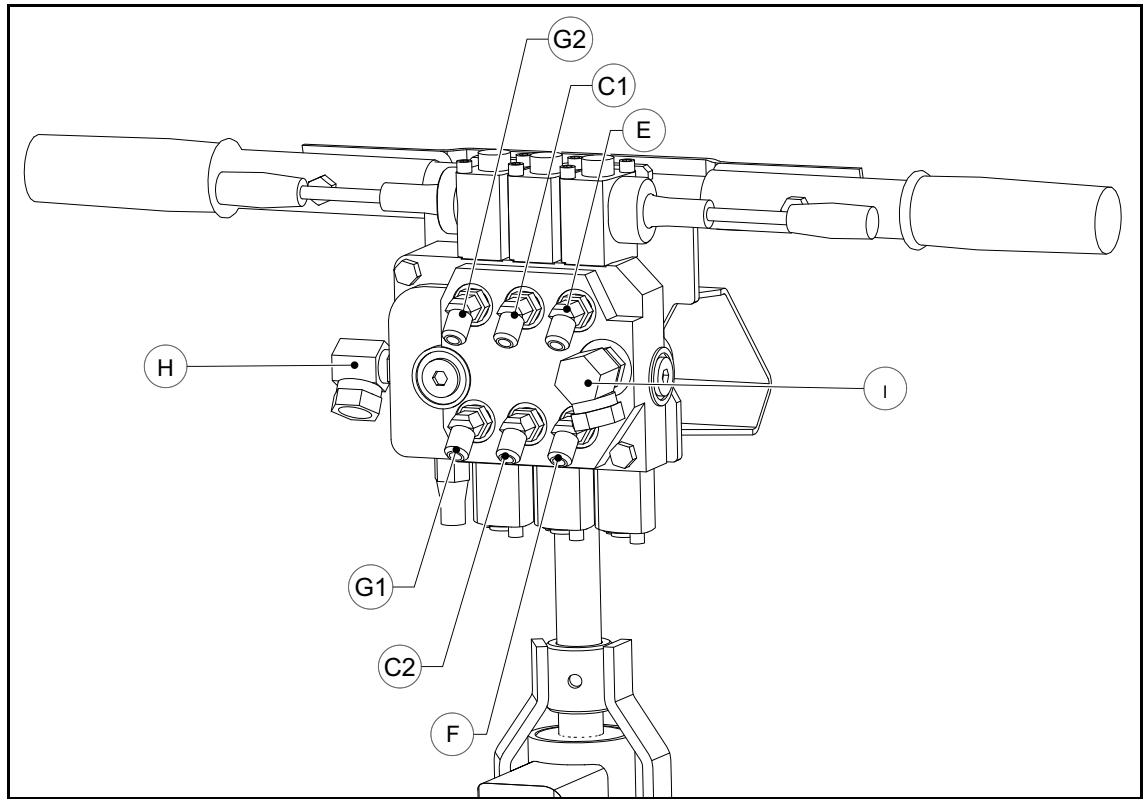
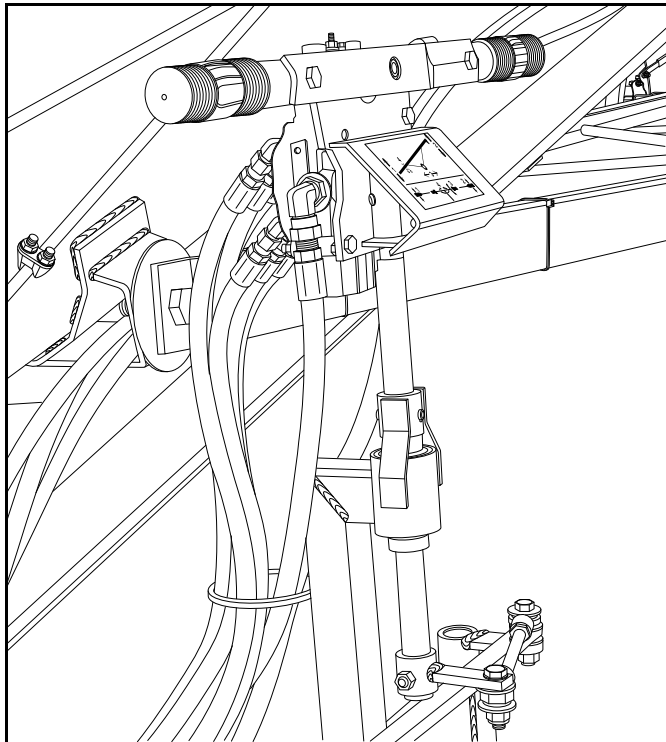

Figure 3.28 Spool Valve
Figure 3.29 Spool Valve (2)
14. Attach hoses to the spool valve as shown in Figure 3.28 and Figure 3.29.